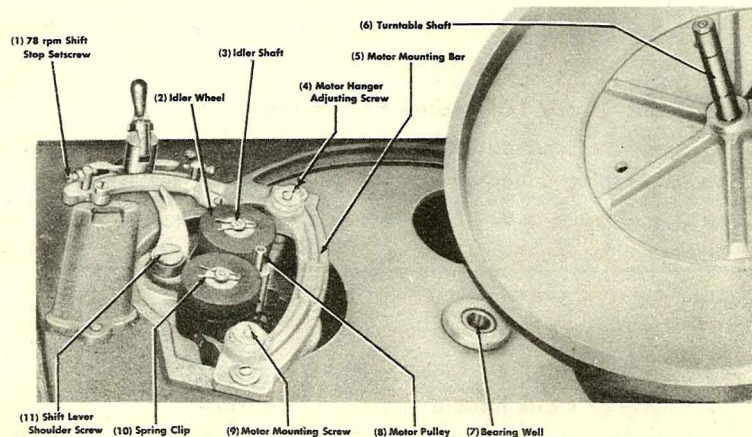

Figure 7. Turntable removed from chassis.
(1) Remove spring clips from idler shafts (fig. 7).
(2) Wipe and clean the two shafts. Apply not more than 1 or 2 drops of 3-1 oil to the shafts. Wipe off any oil on rubber of idler wheels.
(3) Replace idler wheels on proper shafts see figures 7 and 9. Replace spring clips.
(4) Replace turntable.
### 1. LUBRICATION (figs. 7 and 8).
## 2. IDLER WHEEL ADJUSTMENTS (fig. 7).
## 3. MOTOR MOUNTING ADJUSTMENTS (fig. 7).